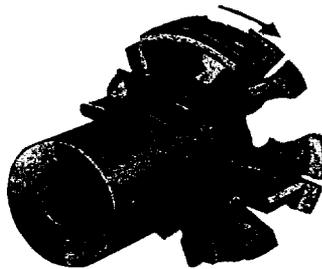

Fig. 3b
- 2) The clutch shoes must be pushed (and not pulled) by the clutch driver. They must fit in the slots of the clutch driver. Fig. 3b.